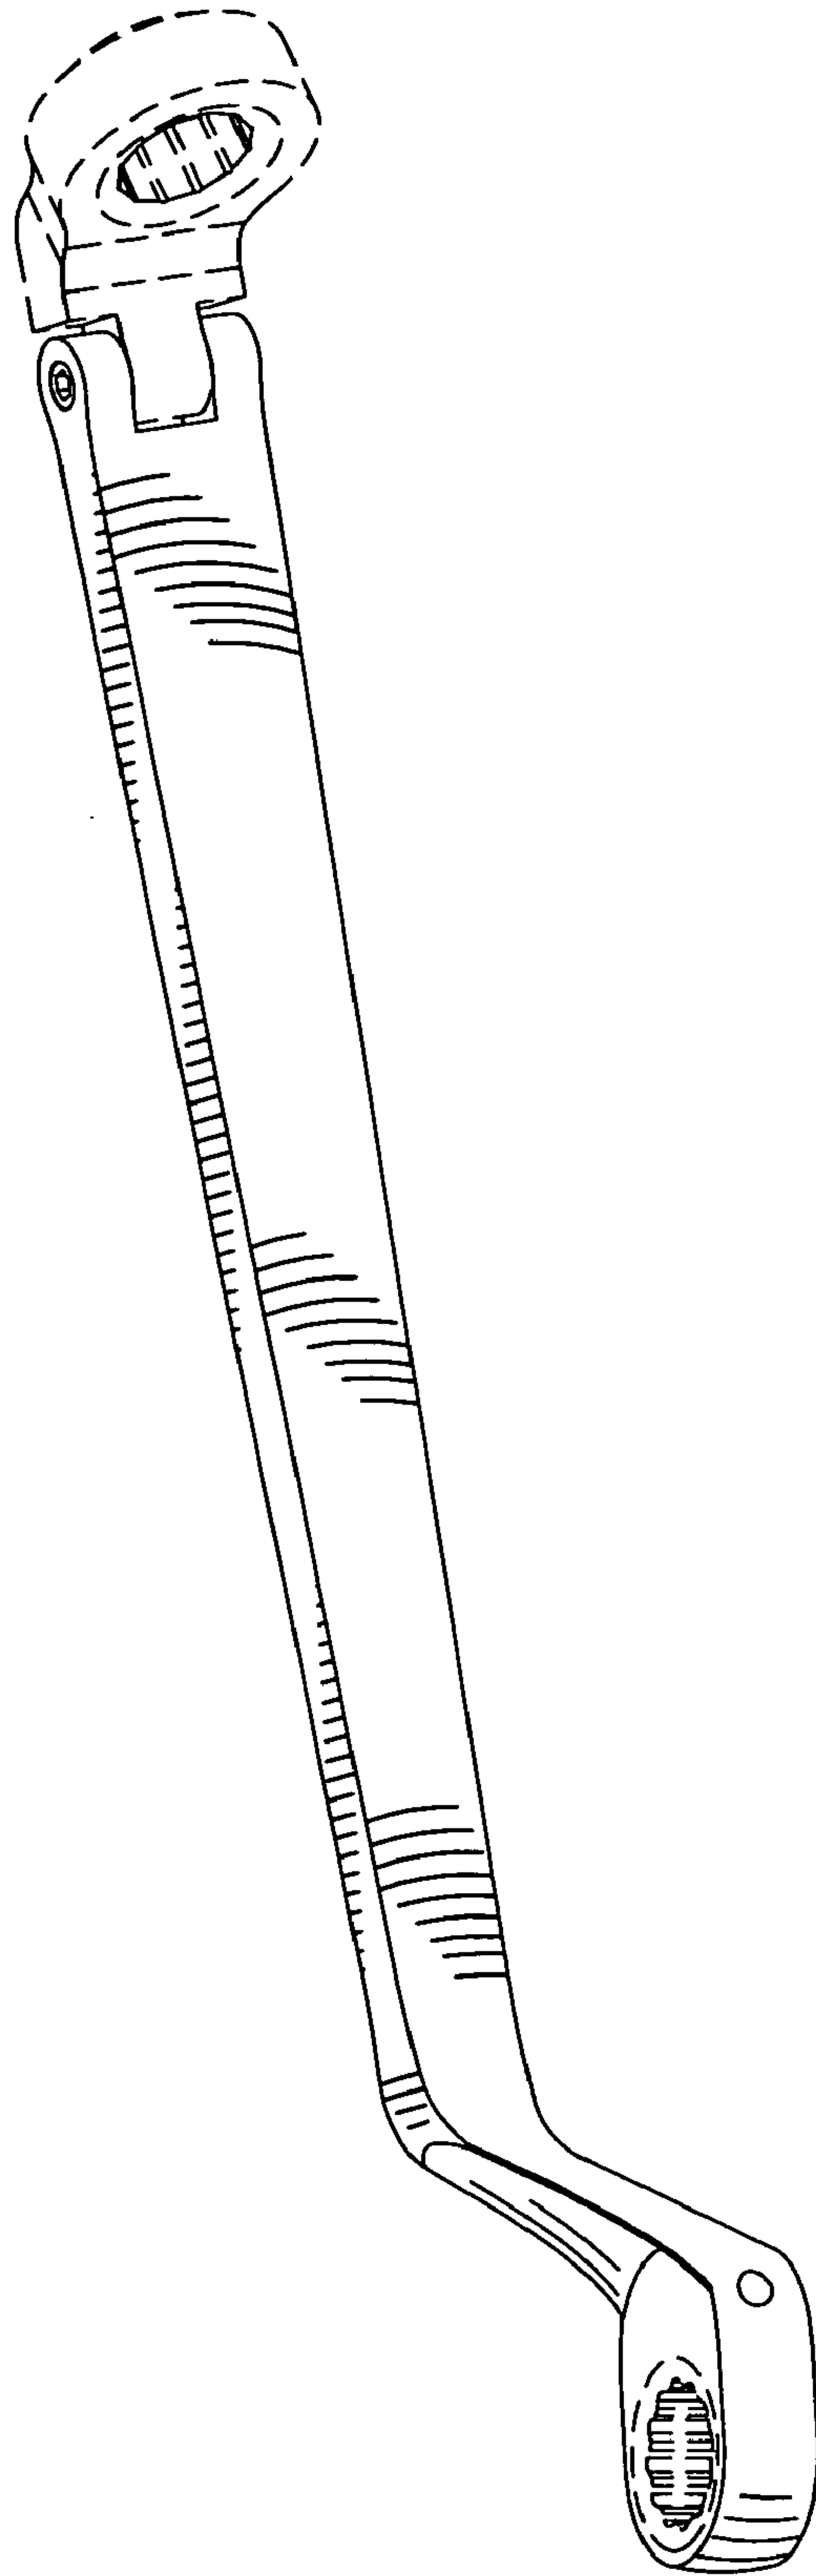
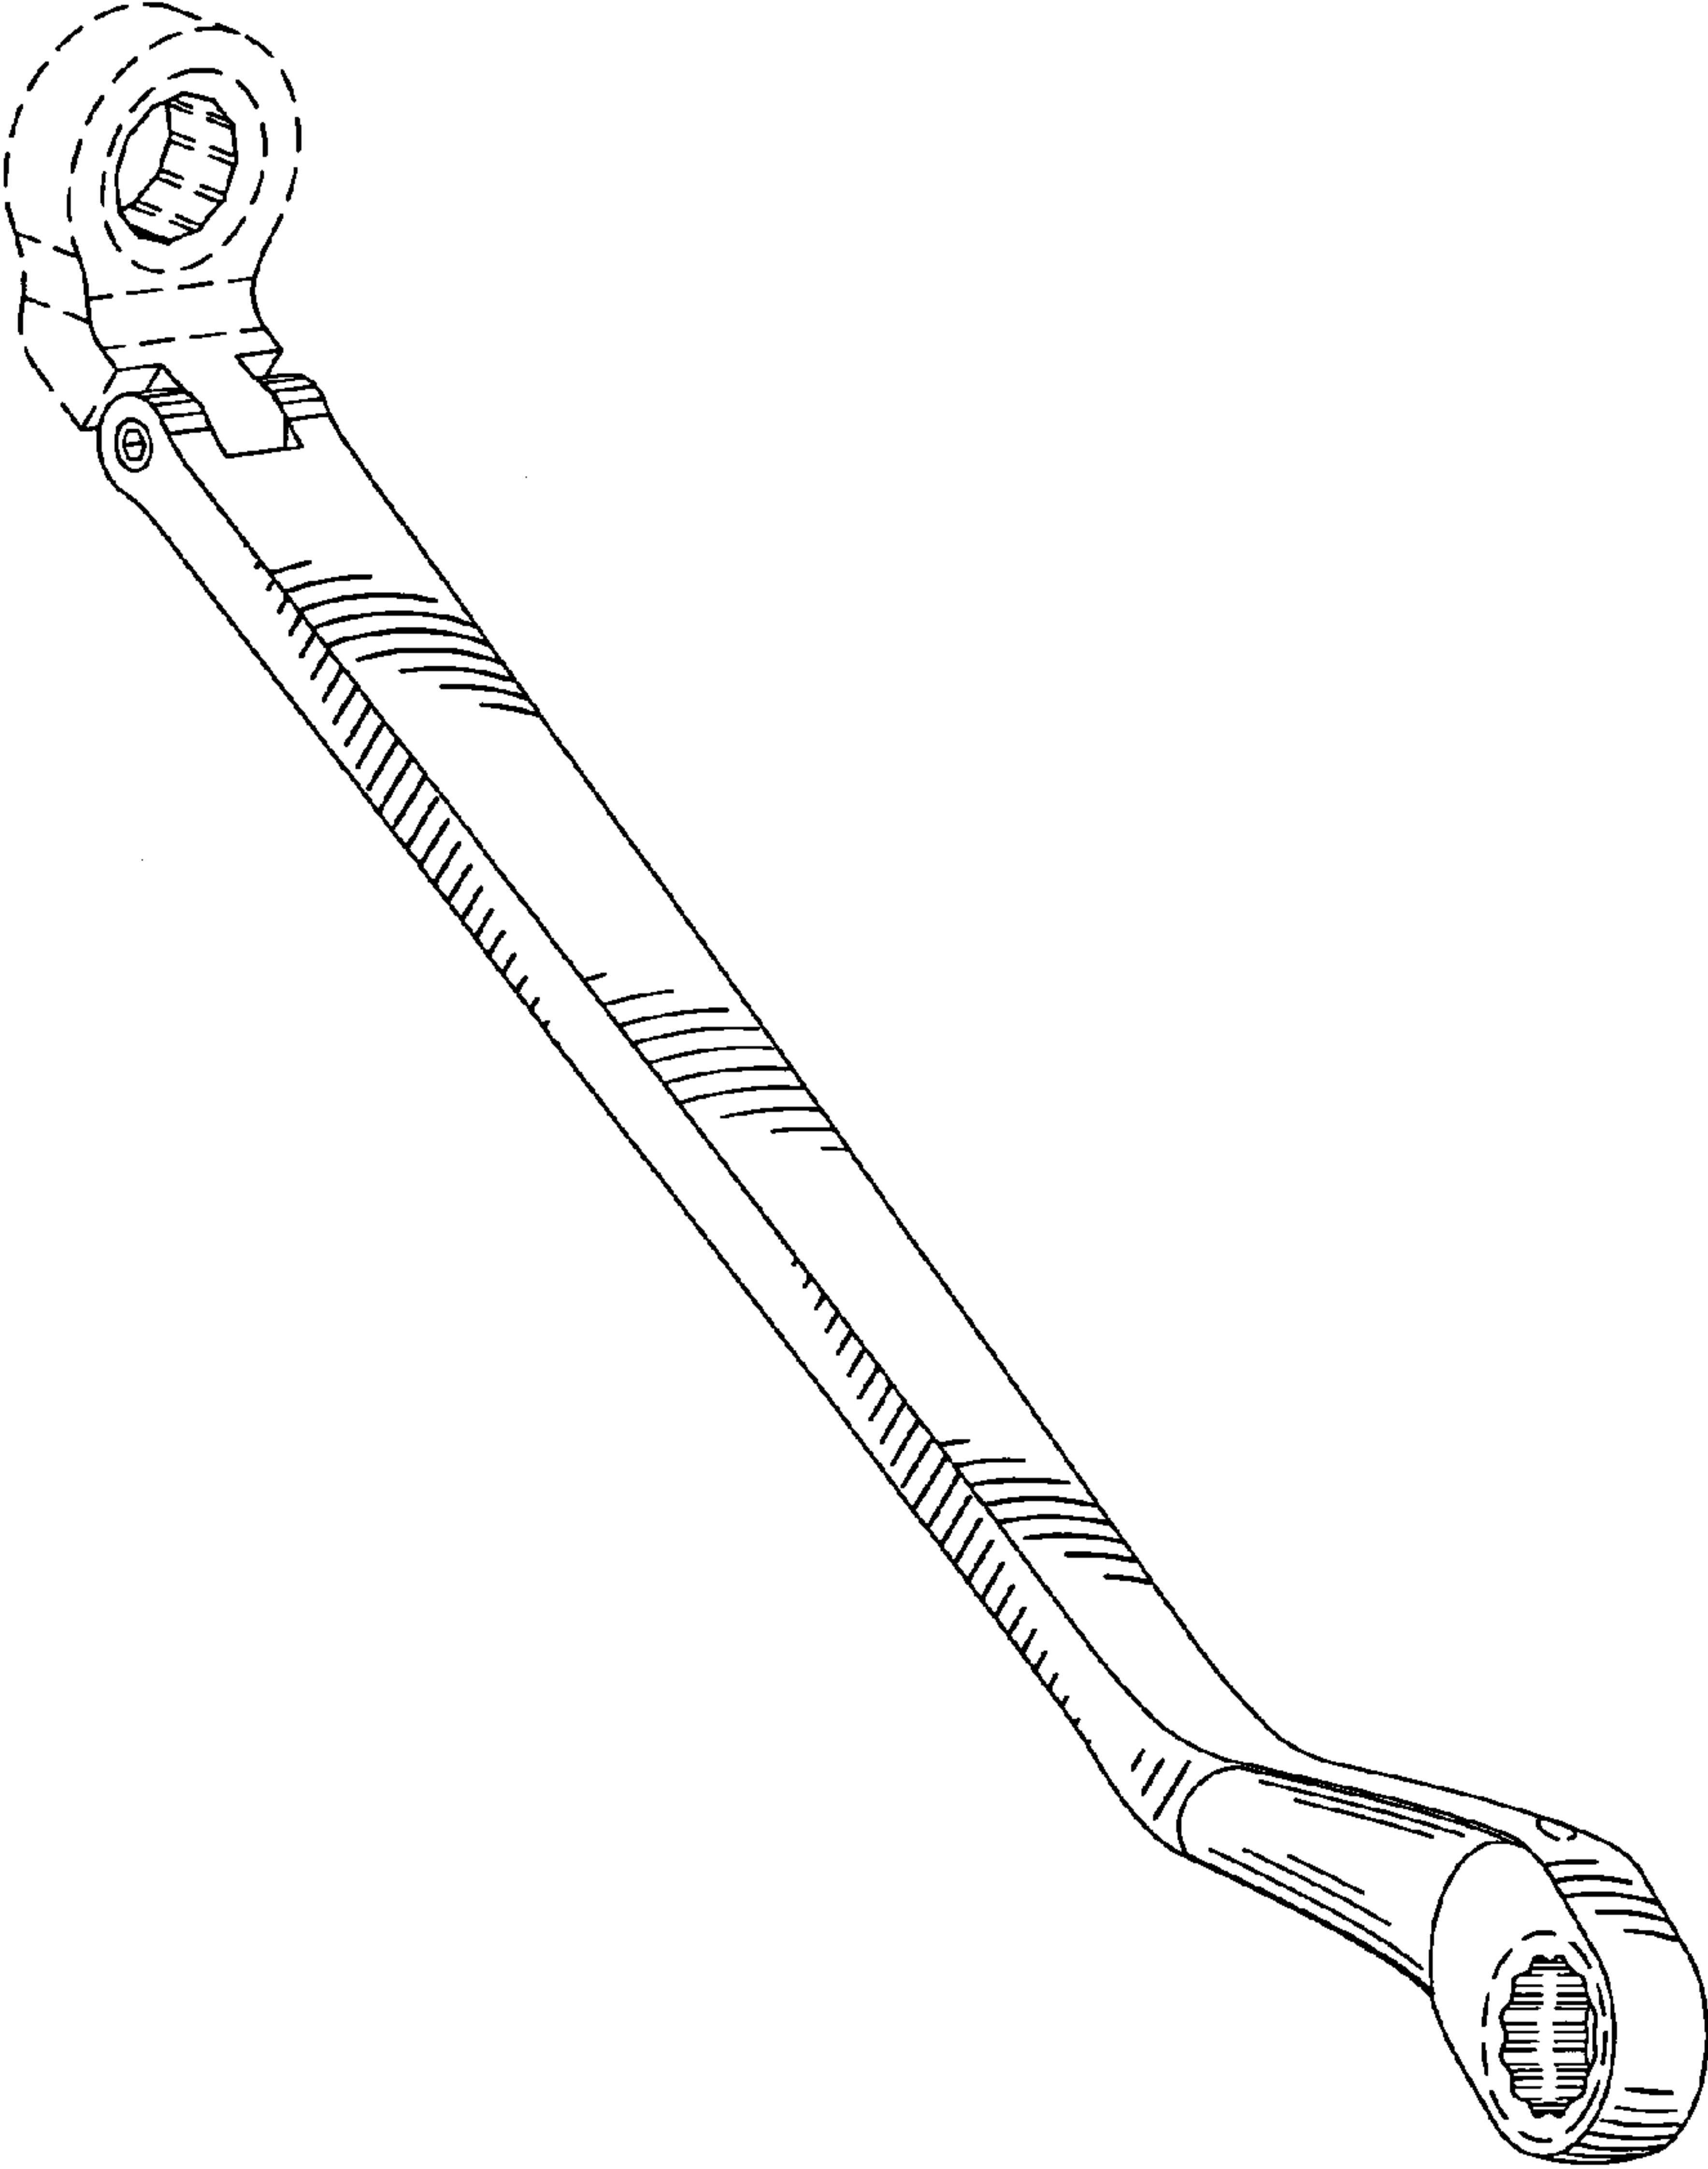

FIG 14
FIG 15
FIG. 14 is a perspective view (V) of the spanner in a position of use.
FIG. 15 is the perspective view from another angle of FIG. 14; and,